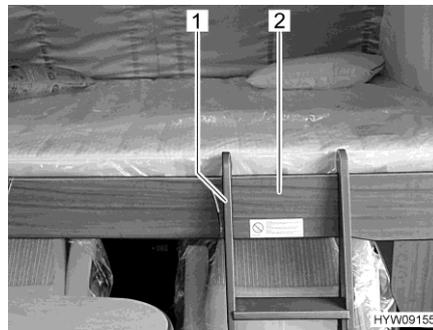

Fig. 101 Access ladder (pull-down bed)
- Hook the access ladder (Fig. 101,1) to the pull-down bed by attaching the two hooks in the bed surround (Fig. 101,2). When engaging make sure that the hooks rest on the inner fixtures. This prevents lateral movement of the access ladder.
- Unhook the access ladder (Fig. 101,1) from the bed surround (Fig. 101,2) on the pull-down bed.